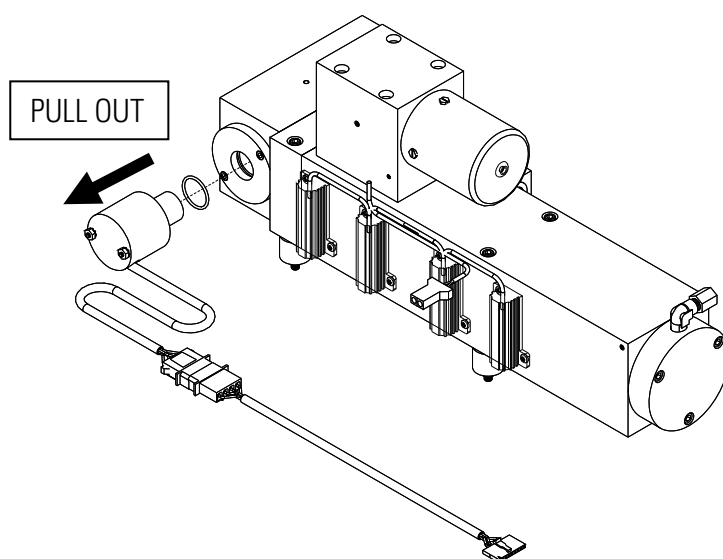

Figure 7-7. Replacing the Reference Detector Assembly
4. Grasp the reference detector and pull straight out (**Figure 7-7**).